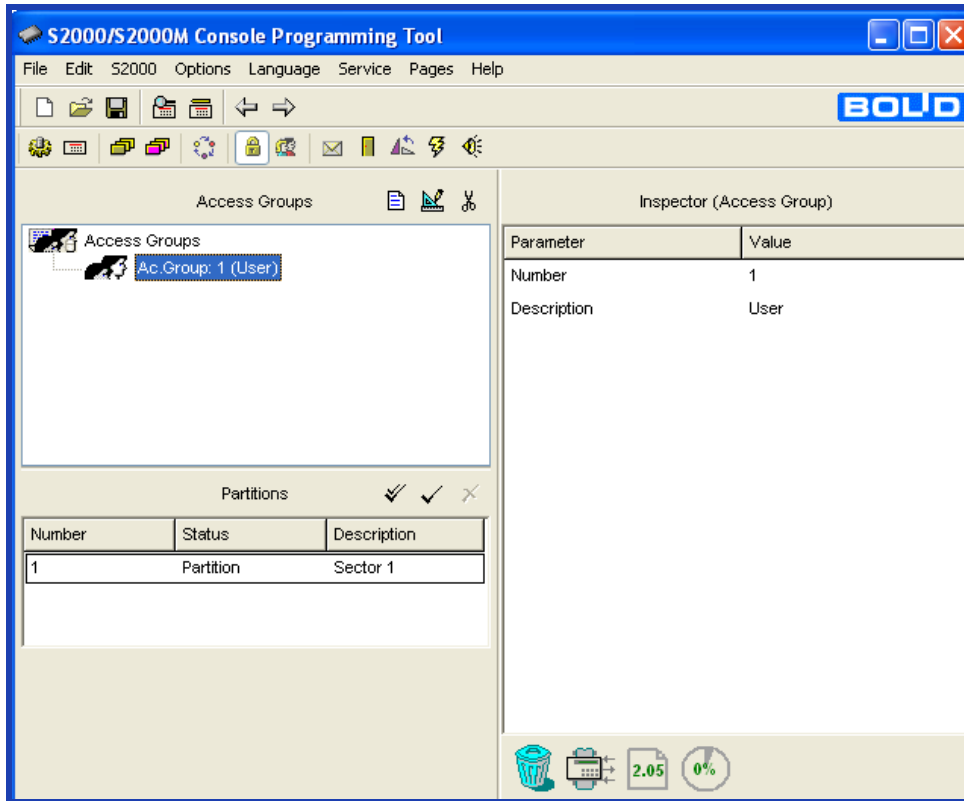

Figure 12
2. Create a new Access Group by clicking on . In the Inspector (Access Group) window select the proper number and type the name or a short comment (optionally) of the Access Group (see Figure 12).